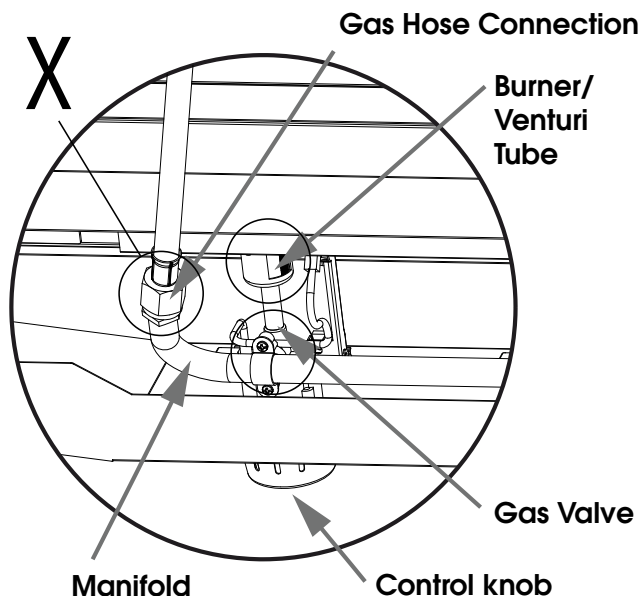

FIGURE 1
1. **SEE FIGURE 1** at right (You will need to look under the barbeque firebox to see these parts).
4. **Use a spoon or spray bottle to apply the solution you made to all locations marked with an 'X' shown in both Figs. 1 and 2.**